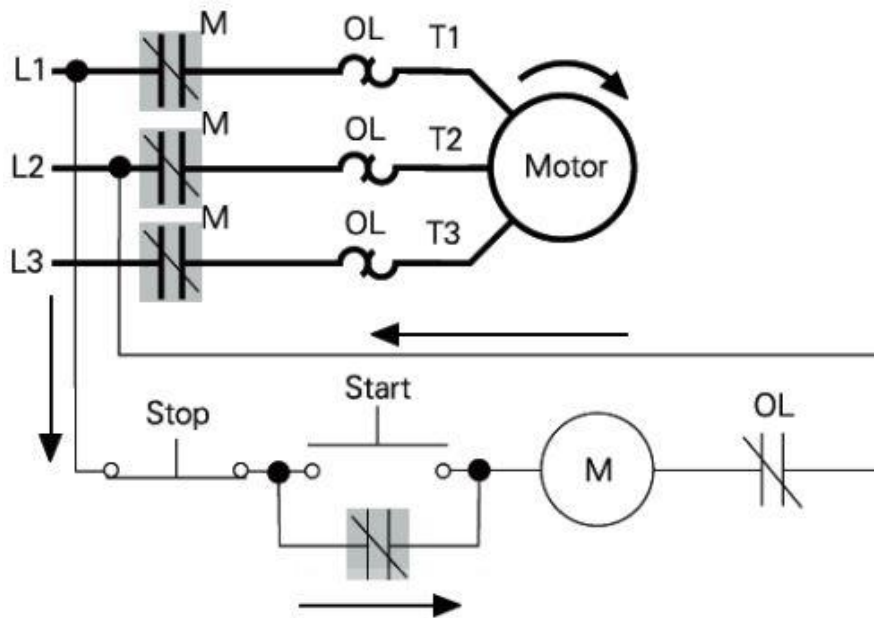
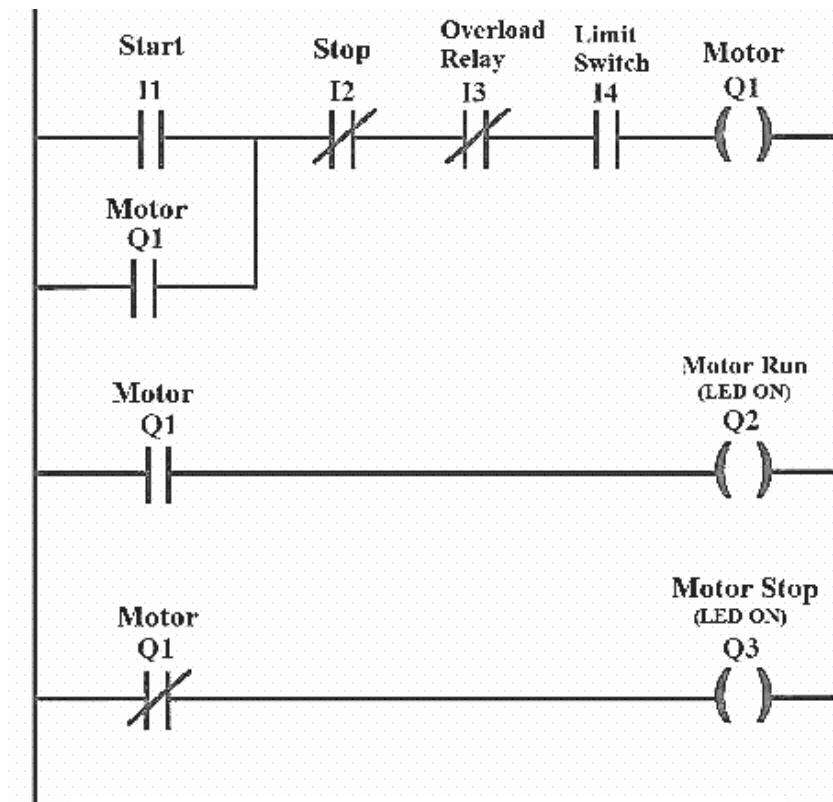

Fig. 1 Motor Starter
Fig.2 Ladder diagram for Motor starter
Figure 1 shows the physical layout of motor starter however this would be designed through ladder logic in this experiment. The figure does not show limit switch because it depends on external interlock like say level switch, flow switch, pressure switch...etc depending on application. Figure 2 shows the ladder diagram for motor starter.
- 1) Connect the circuit in figure 1 and wire the plc.
- 2) Write the ladder for step 1, which is shown in figure 2 and upload it to the plc.